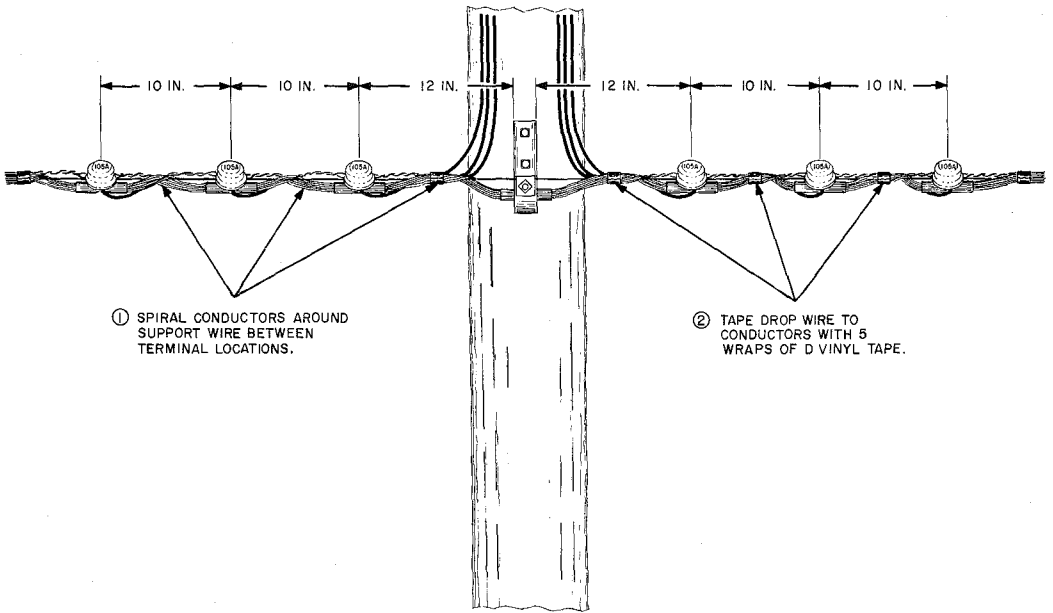

Fig. 14—Arrangement of Wire Terminals
**8.06** A maximum of three wire terminals can be mounted on each side of the wire bracket. A complete installation is shown in Fig. 14, although individual terminals are added only as needed.